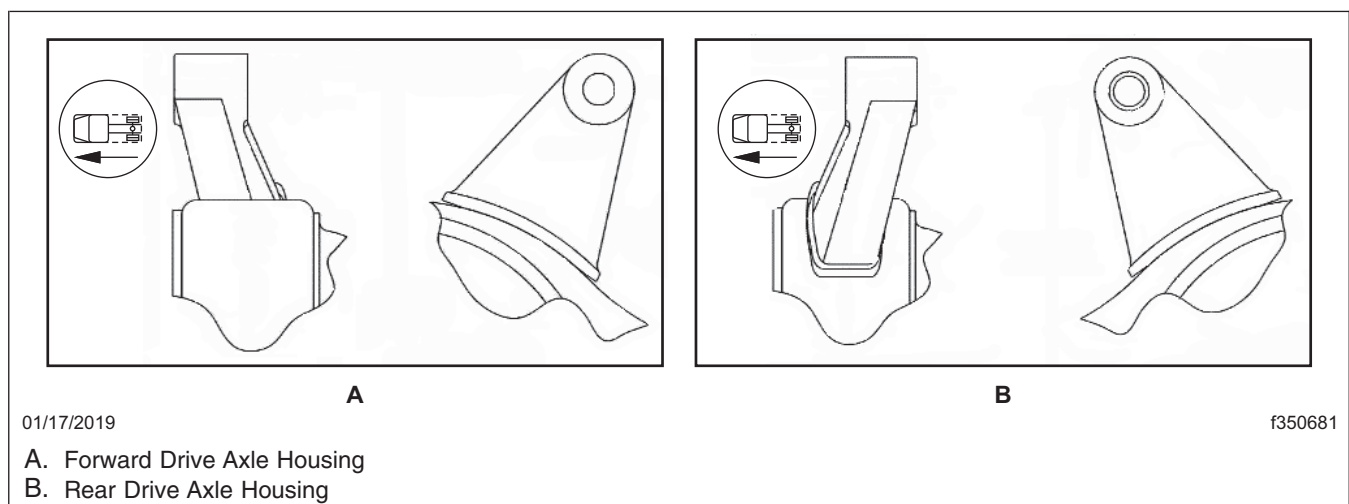

Fig. 1, Track Rod Tower Bracket Orientation
9. Attach the tower bracket to the transverse track rod. Tighten the fasteners only enough to remove play. Do not apply the final torque at this time. See Fig. 1 for the bracket orientation.